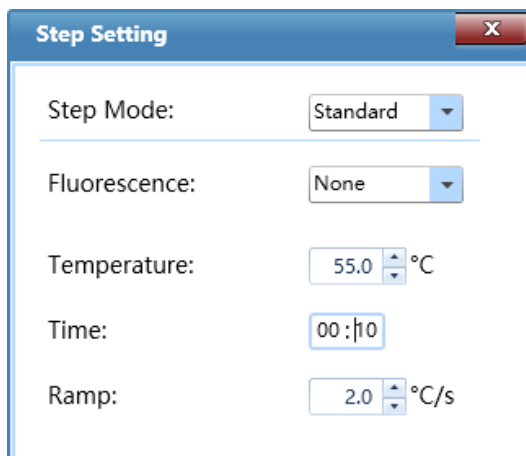

Figure D-5.6a. Step Setting Dialog Box – Standard Step Mode
- Step Setting:** double click any step in the step list or in temperature program area to edit the selected step, the application software will pop up the **Step Setting** dialog box for user to edit the selected step, as shown in figure D-5.6a.
- Standard Step Mode:** user can set the *Temperature*, *Time*, *Ramp* for the standard step and decide whether to read its *Fluorescence*, as shown in figure D-5.6a.